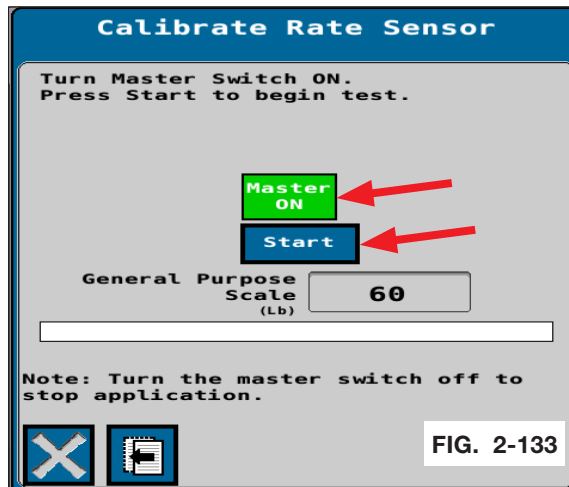

FIG. 2-133
NOTE: If using the spreader scale to determine unloaded weight, record the current scale reading before beginning catch test. (FIG. 2-133)
10. Turn on the “Master Switch”. Click “Start” to begin the catch test. (FIG. 2-133)